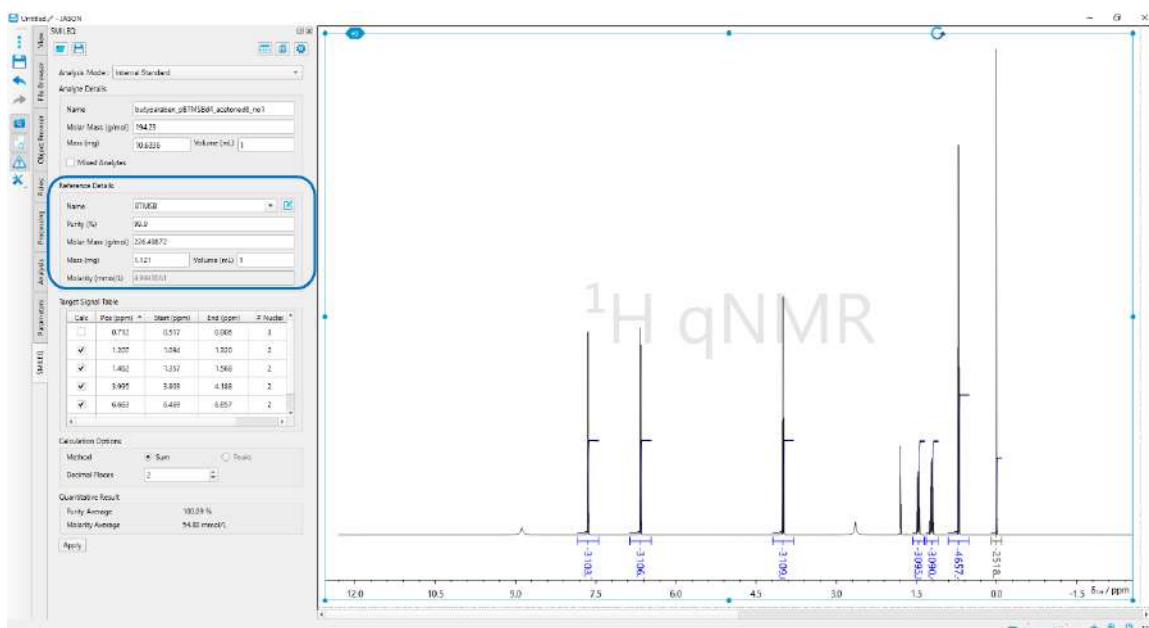

Figure 28: SMILEQ widget after selecting the reference
3. Fill in the box at reference information area. Select the desired reference from the “Name” and enter the reference parameters required for the analysis (see section 2.1.1.2 and Figure 28.)